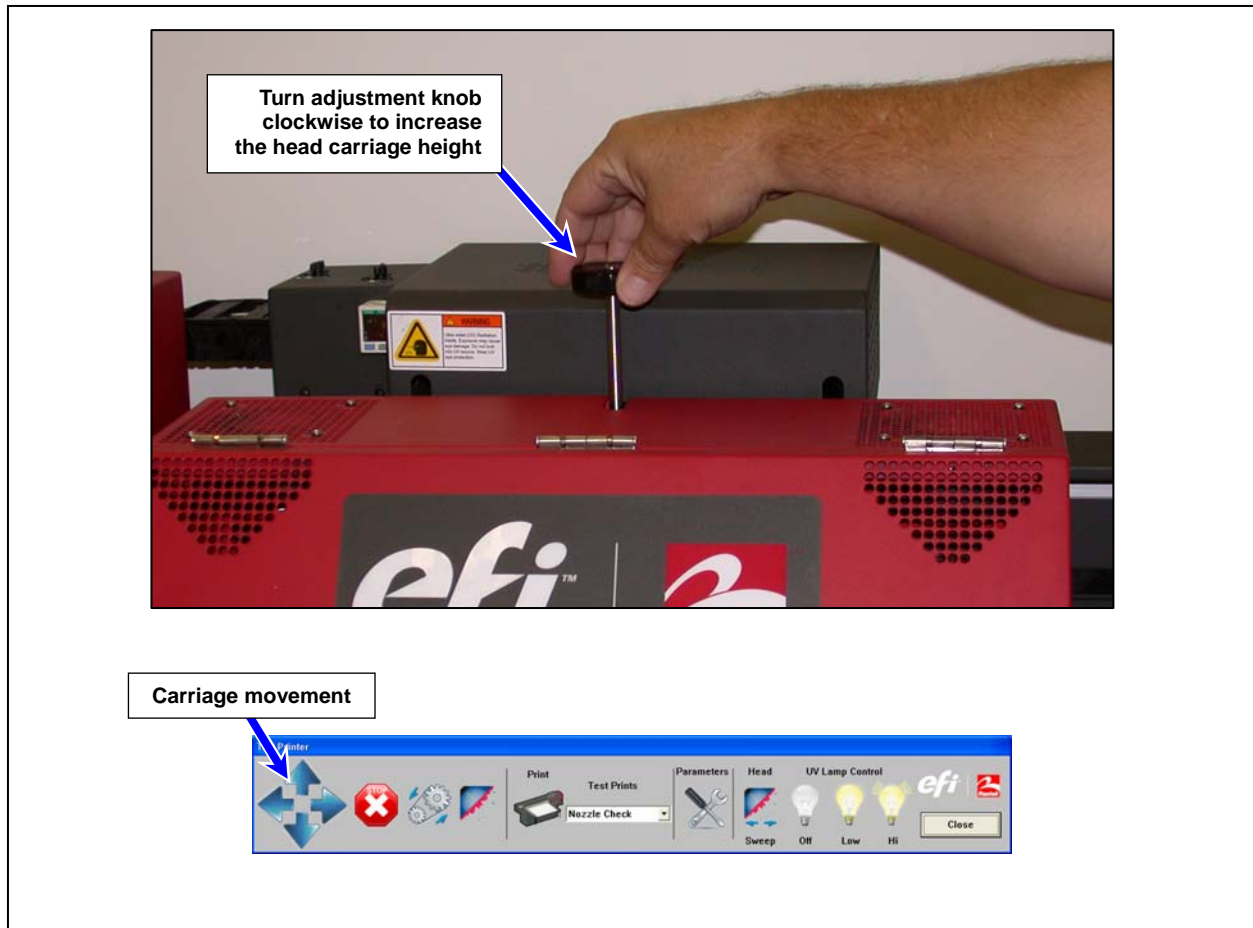

Figure 40 **Adjusting the Head Carriage Height.**
- 3 With the carriage located at the parking station, turn the height adjustment knob clockwise to raise the head carriage. Check to ensure there is enough space to clear the print media. See **Figure 40**.